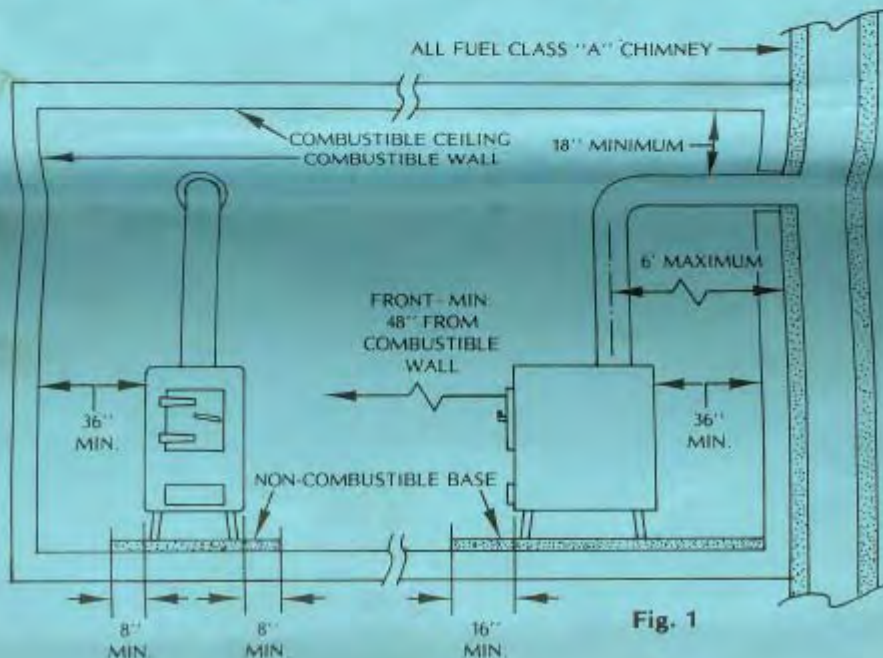

Fig. 1
3. Maintain minimum clearances from combustible surfaces as shown in Fig. 1.